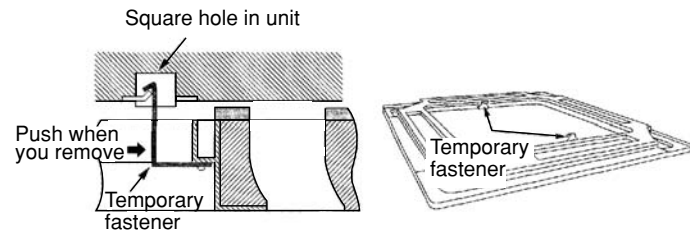
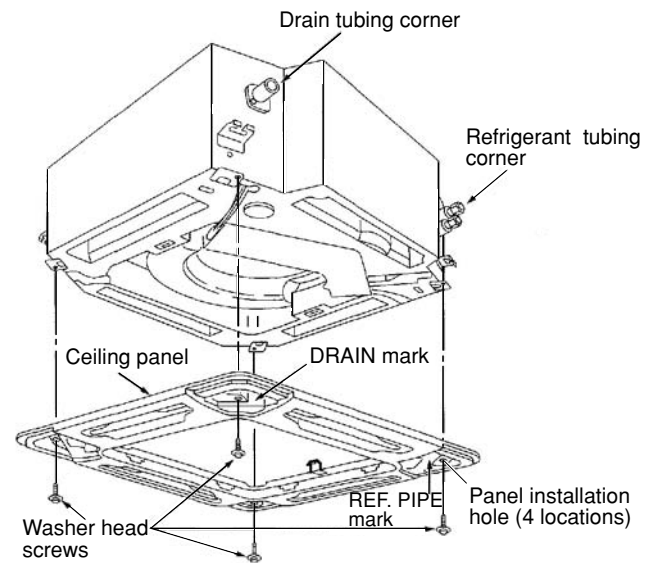
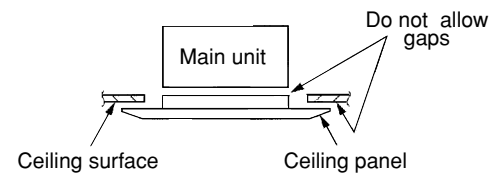

Fig. 9-16
Fig. 9-17
Fig. 9-18
- (1) Insert the temporary fasteners (stainless steel) on the inside of the ceiling panel into the square holes on the unit to temporarily fasten the ceiling panel in place. (Fig. 9-16)
- To remove the ceiling panel, support the ceiling panel while pressing the temporary fasteners toward the outside. (Fig. 9-16)
- (2) Align the panel installation holes and the unit screw holes.
- (3) Tighten the supplied washer head screws at the 4 panel installation locations so that the panel is attached tightly to the unit. (Fig. 9-17)
- (4) Check that the panel is attached tightly to the ceiling.
- At this time, make sure that there are no gaps between the unit and the ceiling panel, or between the ceiling panel and the ceiling surface. (Fig. 9-18)